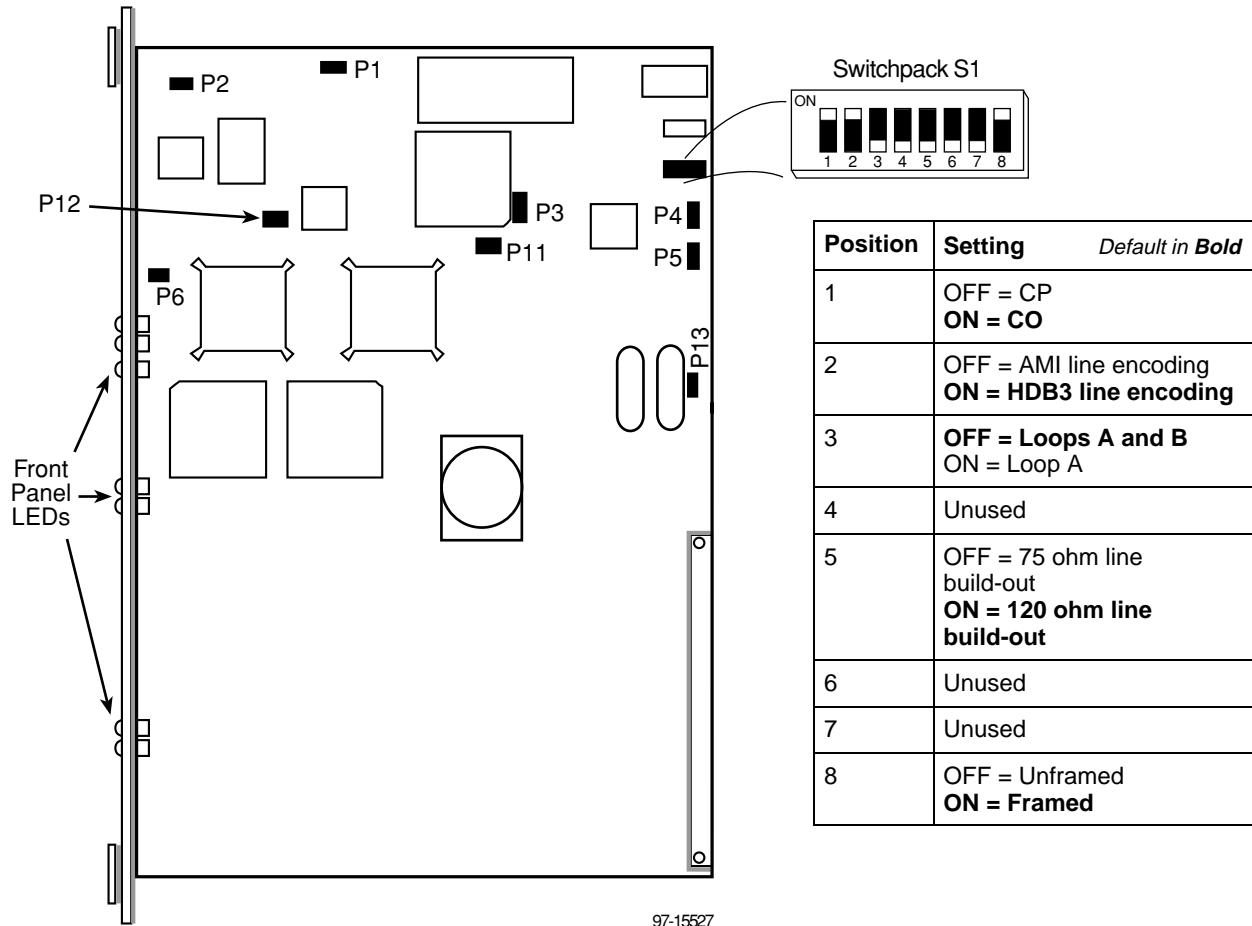

Figure 4-1. HotWire 7925 Nest Card Switchpack Locations and Jumper Positions
3. Use Figure 4-1 to locate switchpack S1.
Use Figure 4-1 to locate HotWire 7925 nest card jumpers and switchpack S1.